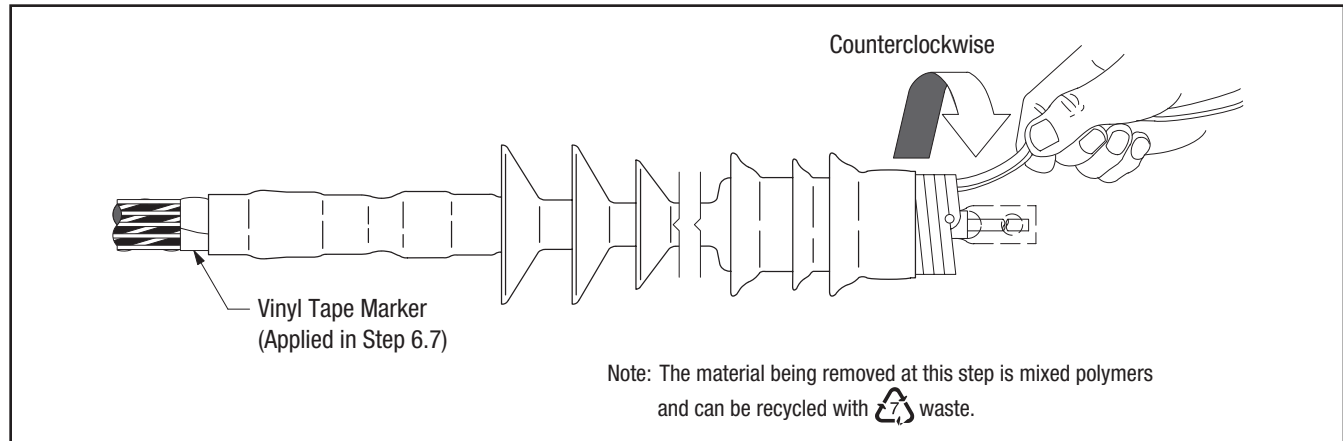

Figure 10
- 9.1** Slide the termination body onto the cable and remove core. Make sure the termination body (not the core) is butted up to the edge of the vinyl tape marker previously applied (Figure 10). Pull the core while unwinding, counterclockwise, starting with the loose end (Figure 10). Be sure to alternate the pulling and unwinding actions (pull-unwind-pull-unwind-etc.) to help prevent the core material from binding up as the core is being removed.